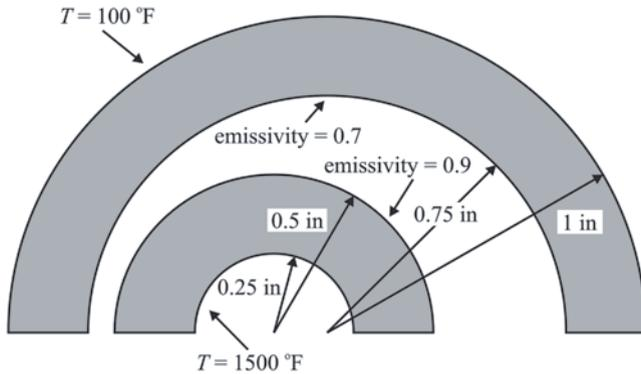

Fig. 9.64 Schematic of the conical fin cross section
Two partial hollow circular regions are radiating to each other, as shown in Fig. 9.64. The emissivity of the outer surface of the inner region and inner surface of the outer region are 0.9 and 0.7, respectively, while the inner surface of the inner region and outer surface of the outer region are maintained at temperatures of 1500°F and 100°F, respectively. The space temperature is 70°F. Both regions have a thermal conductivity of 0.1. The goal is to obtain the steady-state temperature and heat flux variations.
- *Circular Area by Dimensions* dialog box appears. Referring to Fig. 9.64, enter **0.5** and **0.25** for **RAD1** and **RAD2**, and **0** and **180** for **THETA1** and **THETA2**; click on **OK**.
- *Circular Area by Dimensions* dialog box appears. Referring to Fig. 9.64, enter **1** and **0.75** for **RAD1** and **RAD2** and **0** and **180** for **THETA1** and **THETA2**; click on **OK**.